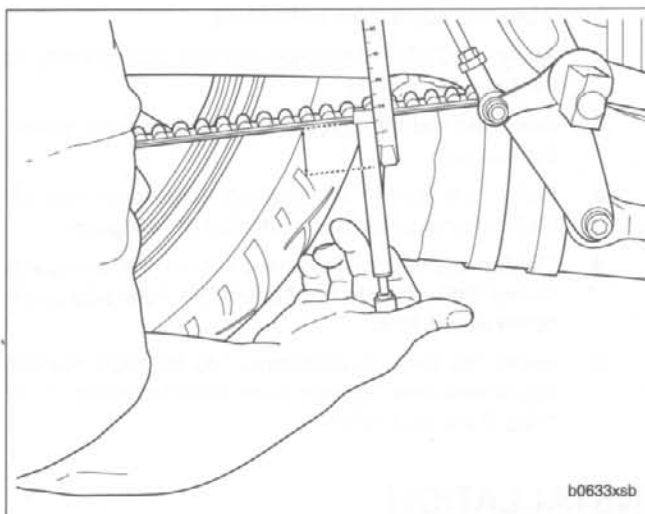

Figure 2-119. Belt Deflection
- b. See Figure 2-119. Check belt deflection.